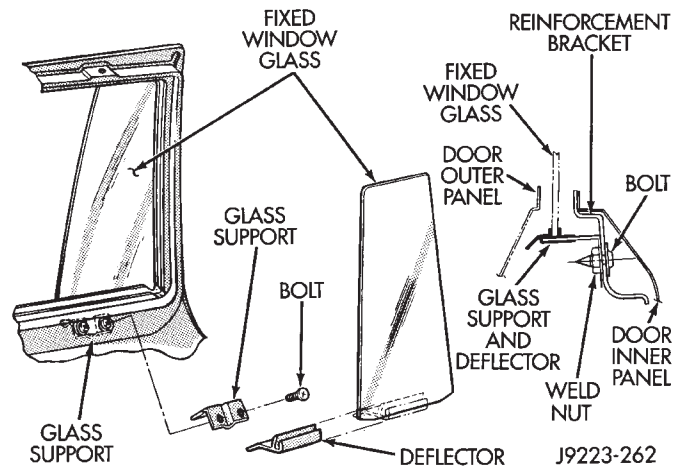

Fig. 67 Fixed Glass Removal/Installation
- (8) Remove the fixed glass from the door (Fig. 67).